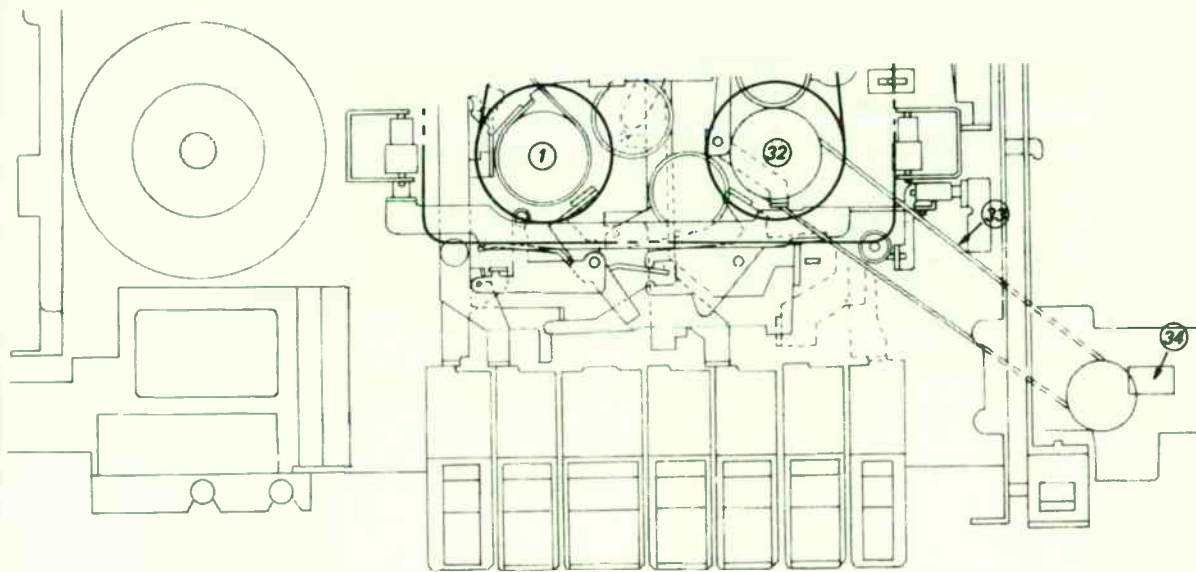

Fig. 5-1 Illustration of the path taken by the tape threading and the drum head assembly.
Figure 5-1 shows the path taken by the tape as it moves from the supply reel table assembly (1) to the take-up reel table assembly (32). The tape from the supply reel table assembly first passes the guide (2) and the tape slack preventing plate (3) inside the cassette. The tape slack preventing plate applies bracking pressure to the tape when slack occurs inside the cassette. This is necessary because the tape is damaged by the cassette lid (5) if the slack tape comes out the cassette.